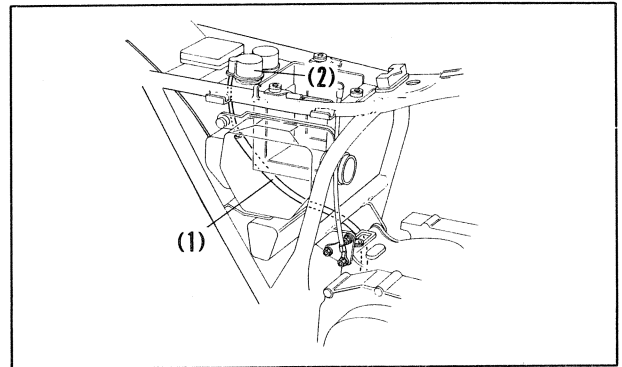

Fig. 4-4 (1) Starting motor cable
(2) Foot rest
4. Route the starting motor cable as shown in Fig. 4-4 and connect it to the starter magnetic switch.